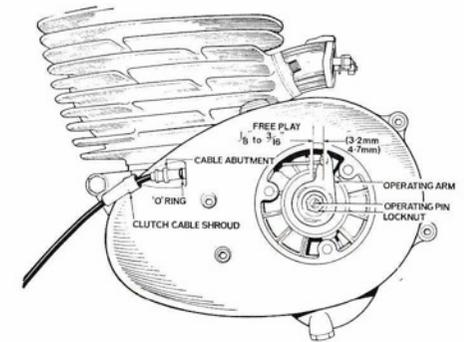

Fig. 31 Clutch thrust adjustment.
- 6 Fit the locknut – do not tighten. Use a box spanner and screwdriver to adjust until there is $\frac{3}{16}$ in. (4.7 mm) free play on the scroll arm (see Fig. 31.) Secure the locknut.
- 6 Connect the cable nipple to the operating arm. (See Fig. 31.)
- 2 Check adjustment at the clutch operating pin with the cable adjustment slackened right off. As shown in Fig. 31 it should be possible to rotate the operating lever to and fro for $\frac{3}{16}$ in. (4.7 mm)